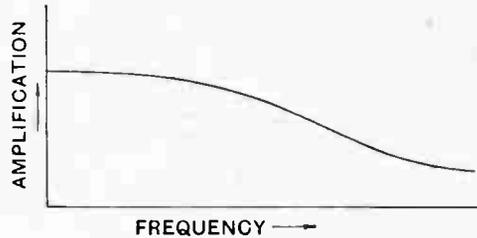

Fig. 4.—Form of characteristic curve obtained with condenser across anode resistance.
Fig. 4 (a).—Distribution of sections in high inductance tapped transformer. S_1 is used to give the correct turn ratio, the other sections being standard. A better arrangement would be to have 4,500 turns on the primaries, giving an inductance of 182 henries. A 3 : 1 ratio can be obtained by connecting P_2 P_3 in parallel.
(1) Referring to Fig. 1, if a 0.005 mfd. variable condenser is connected across the resistance in the anode circuit of V₁ the impedance of the resistance condenser unit will decrease with increase in frequency and the characteristic will have a downward slope, as shown in Fig. 4. The result is to attenuate the higher tones relative to the lower and intermediate tones, which remain much as they were. At a certain value of capacity the music or speech will sound muffled.
of transformation from 2 to 3 is to give the speech or music a higher pitch (so far as our auditory organs perceive it), and at the same time to increase the intensity, since the energy is augmented due to the greater transformation ratio. There are three primary sections on the transformer which are interleaved with the secondaries as shown in Fig. 4 (a). There are three ways of obtaining a 3:1 ratio, viz., $P_1 P_2$, $P_2 P_3$, or $P_1 P_3$. In each case there is an "idle" primary section. Moreover, the resulting amplification curve is different in the three cases owing to the different relative position of the section and the variation in leakage (coupling). For example, with $P_2 P_3$ the system is symmetrical and the idle section is at the H.T. battery end, where the potential variation is zero. The effect of the idle section is least here and leakage resonance occurs at a frequency of the same order as that for the 2:1, i.e., the untapped transformer. Using sections $P_2 P_3$, the idle section P_1 now being situated at the anode end, where the greatest variation in P. D. occurs, the result is rather interesting. (See Fig. 5.) The resonance frequency of the idle section occurs in the region 2,000 cycles to 2,500 cycles, and this amongst other things is responsible for the summit-like aspect of the amplification curve. Whilst the curve would give an overpowering high tone
can readily be accomplished by putting the primary and secondary of a transformer in series and tapping off. The inductances will, of course, depend on the type of transformer. Taking valve V_1 alone, the calculated characteristics with the three inductances are shown in Fig. 6. Thus, with 25 henries the loud-speaker will sound high pitched, with 100 henries it will sound more normal. With 900 henries will be more pronounced than before. The results will depend on the self-capacity of the choke and the impedance of the rectifier. By putting a (variable) condenser across the choke, the characteristic of the detector and choke can be made to droop, as in Fig. 4, so that with the 3:1 transformer the overall characteristic is akin to that illustrated in Fig. 7. This